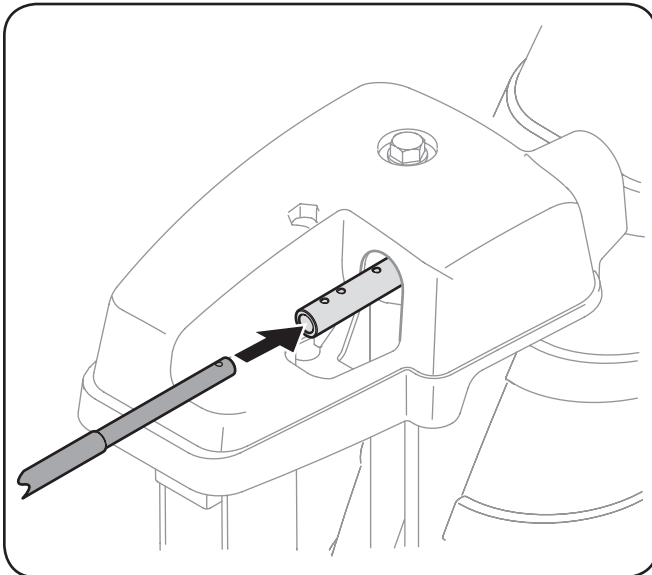

Figure 3-4
2. Insert the round end of the chute control rod into the chute control head. Push rod as far into chute control head as possible, keeping the holes in the rod pointing upward. See Figure 3-4.